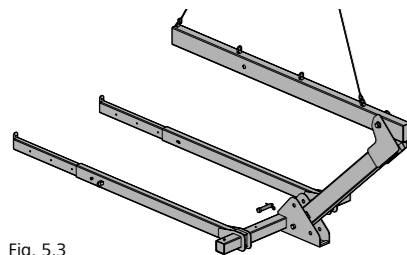

Fig. 5.3
- Pull the transport spreader up completely with the crane (Figures 5.3 and 5.4).